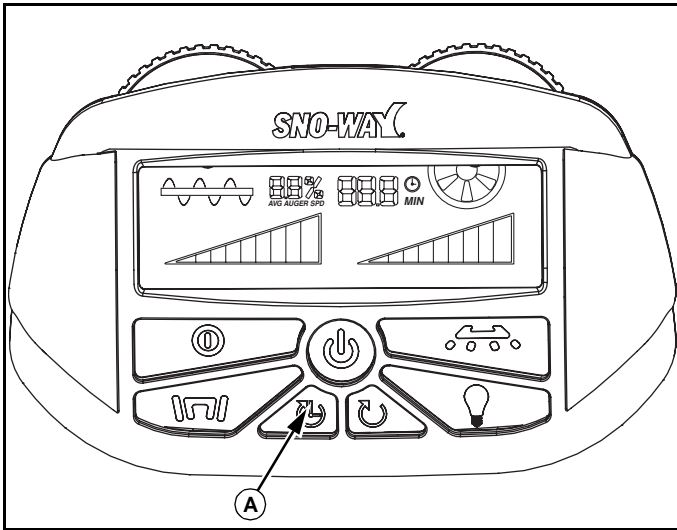

Figure 1-17
The Reset Timer Button  (A) clears out the average auger speed and auger run time. The timer reset can be performed at any time, during running or during PAUSE MODE. (See Figure 1-17.)